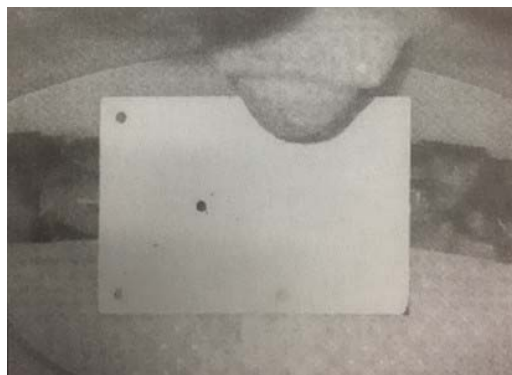

Figure 4. Jig in place for drilling
- Remove the jig from the bulkhead, and check that the pump screws slide into place in the bulkhead. (Figure 4.)